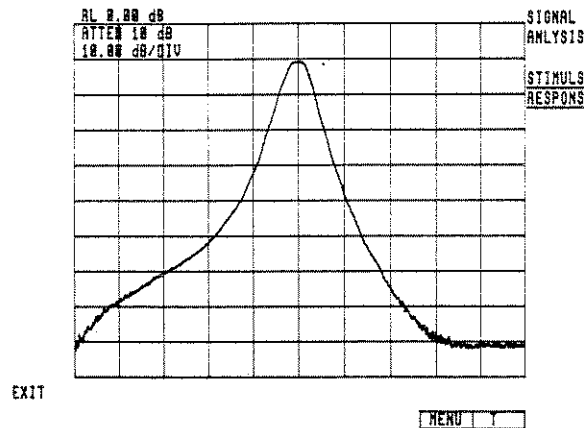

Figure 1-40.
◀ STIMULUS RESPONDS ▶ is active when underlined as in Figure 1-40. When active, **◀ STIMULUS RESPONDS ▶** activates the stimulus-response auto sweep time (which is typically valid for devices when the system's span is less than 20 times the bandwidth of the device).
Activating **◀ STIMULUS RESPONDS ▶** and either of the math function softkeys (**◀ A - B --> A ▶** or **◀ A - C --> A ▶**), activates *relative amplitude mode*. When the system enters relative amplitude mode, the reference level is set to 0 dB and the following functions are displayed in dB units: amplitude unit conversion (AMPU), display line (DL), measurement unit conversion (MEASU), marker amplitude (MK), reference level (RL), threshold (TH), and trace data input/output (TRA/TRB/TRC). For example, the reference level in Figure 1-40 is set to "RL 0.0 dB." (For more information, see "MEASURE" in the HP 71000 Language Reference.)